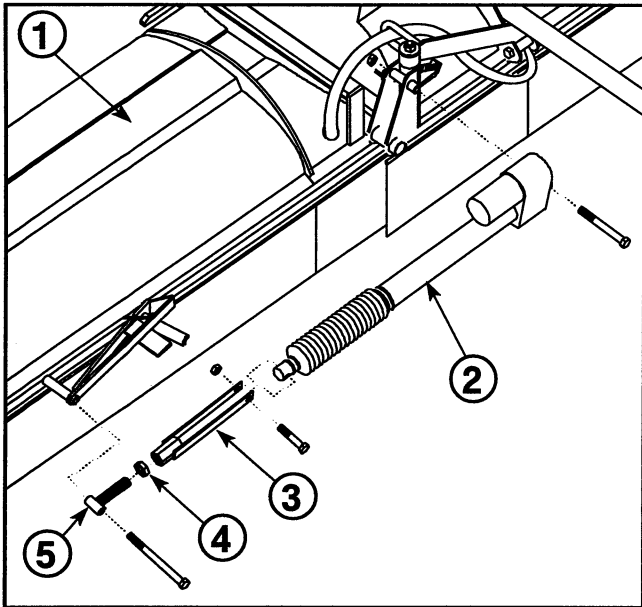

FIG. 11
1. Assemble the Boom Extension Electric Lift Adjustment Links onto the Right and Left Boom Extensions using 1/2" x 8" hex hd. cap screws and locknuts. Assemble Electric Actuators onto the Boom Extension Breakaway Pivots using the 1/2" x 5" hex hd. cap screws and locknuts. Connect the other end of the Actuator to the Actuator Adjustment Link using the 1/2" x 2" hex hd. cap screws and lock nuts. FIG 11.